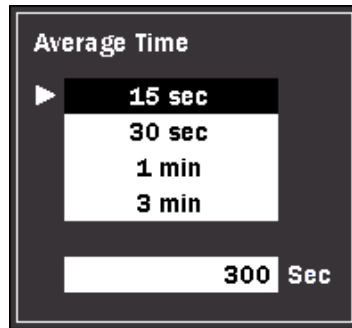

Figure 6-13: Average Time Dialog
Specify the Average Time/Average Count by either selecting one of the four pre-set values or by entering the desired value in the field at the bottom of the dialog (see Figure 6-13 on page 6-34).
2. Press the **Enter** key. The Average Time dialog appears (see Figure 6-13).
The “Time” and “Count” selections are only available when the language is set to Chinese and are not show in Figure 6-13.